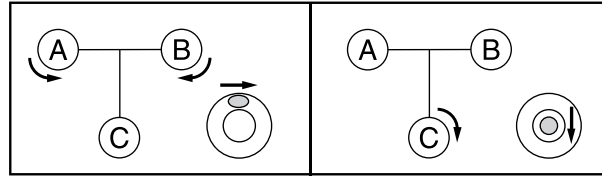

Figure 1
- Use the leveling screws (9) to position the bubble level (10) in the center (Fig. 1). The device is leveled when the bubble is in the center.